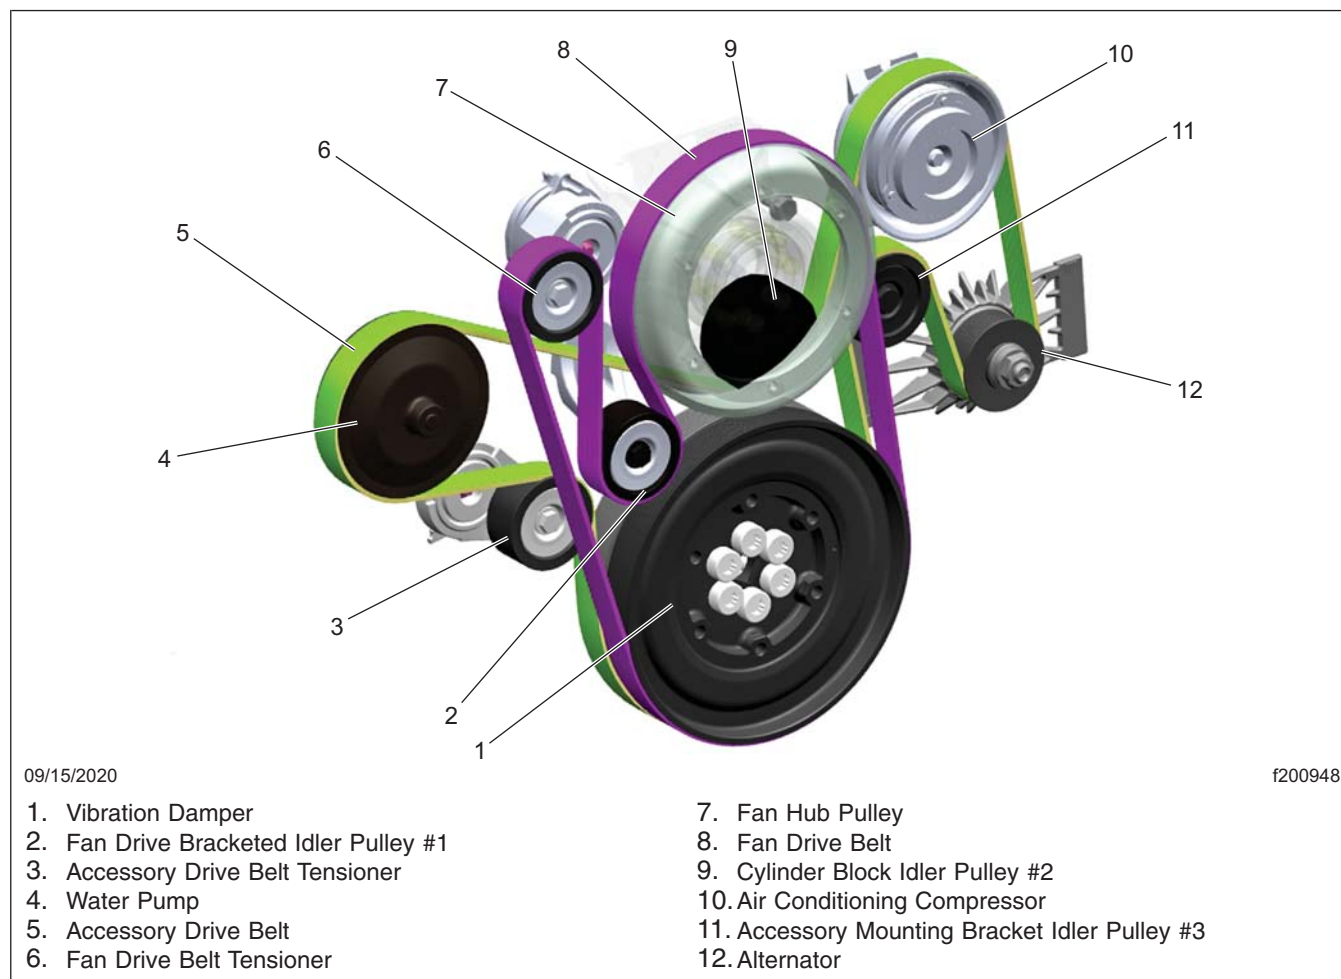

Fig. 2, Fan Drive Belt
- 6.1 Using the guide pulley mounting bolt on the fan drive belt tensioner (see Fig. 2, Ref 6), rotate the assembly counterclockwise and hold to relieve tension.
- 9.7 Torque the Fan Drive Bracketed Idler Pulley #1 (see Fig. 2, item #2) to 37 lbf-ft (50 N·m).
- 9.8 Torque the fan drive belt tensioner (see Fig. 2, item #6) mounting bolt to the cylinder block to 37 lbf-ft (50 N·m). Torque the mounting bolt to the cylinder block, and not the pulley mounting bolt.